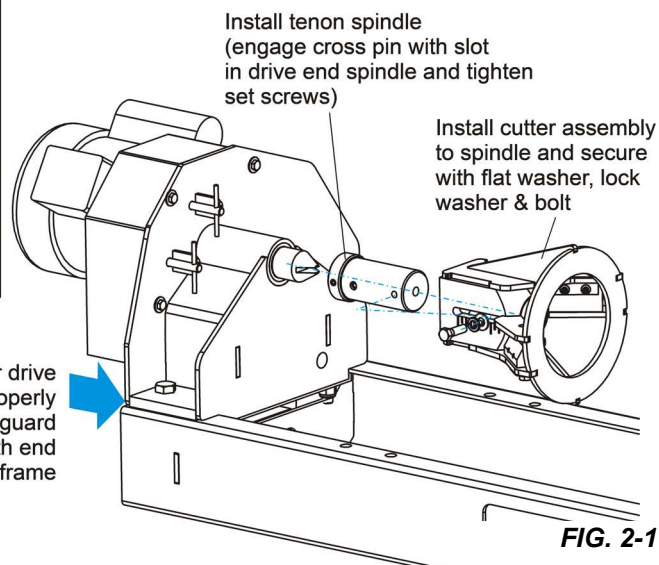

FIG. 2-1
1. Remove the dog bracket from the drive end spindle, if necessary. **See Fig. 2-1.**